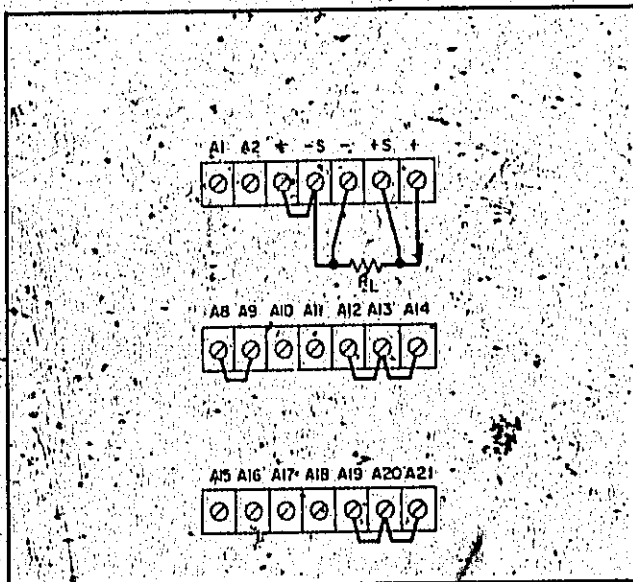

Figure 3-5. Remote Load Sensing
3-38 Remote sensing is used to maintain good regulation at the load and reduce the degradation of regulation which would occur due to the voltage drop in the leads between the power supply and the load. Remote sensing is accomplished by utilizing the strapping pattern shown in Figure 3-5. The power supply should be turned off before changing strapping patterns. The leads from the sensing (S) terminals to the load will carry much less current than the load leads and it is not required that these leads be as heavy as the load leads. However, they must be twisted or shielded to minimize noise pickup.